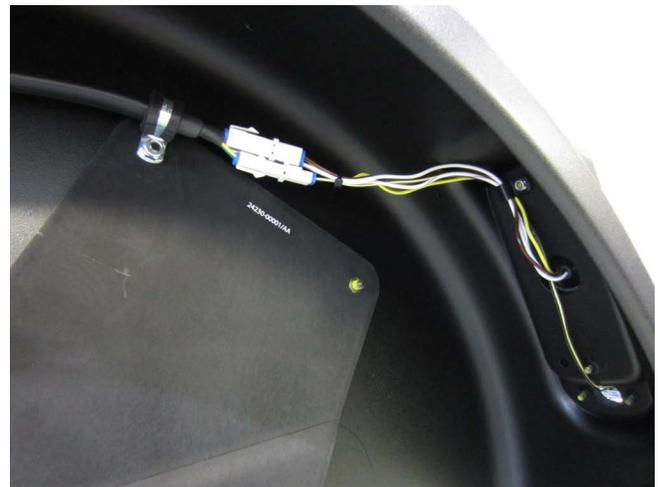

Figure 60: Wire Harnesses
2. Reach into the wheel well and disconnect the Brake Light harness. See **Figure 60**.
2. Reach into the wheel well and disconnect the Rear Directional Light harness. See **Figure 60**.